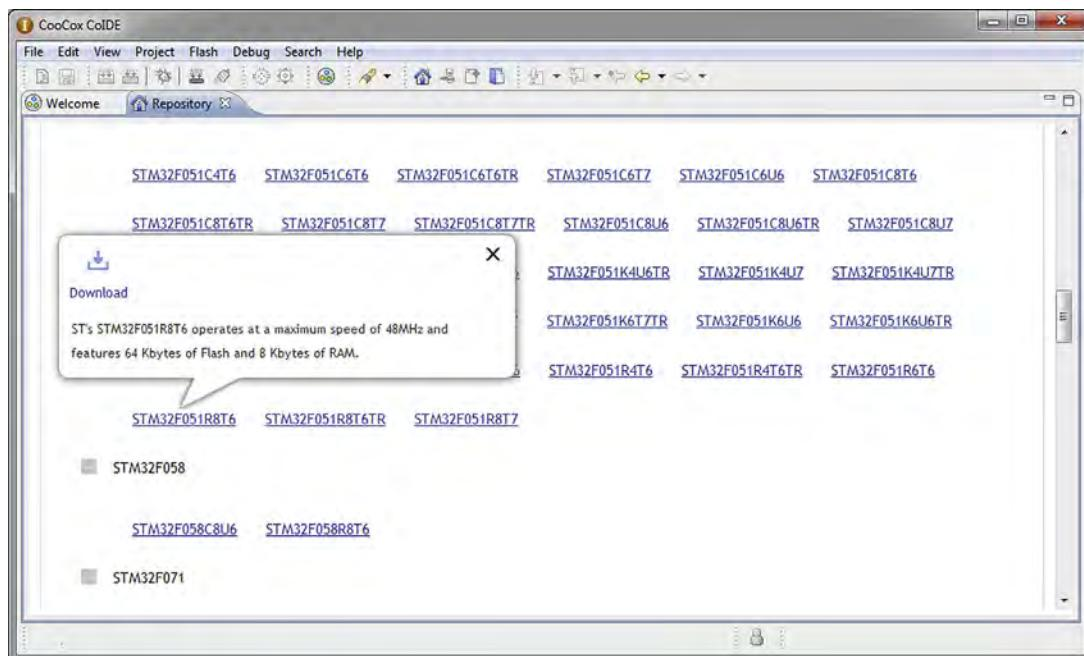

Figure 16.20
2. select the part number of the microcontroller, as shown in Figure 16.20.